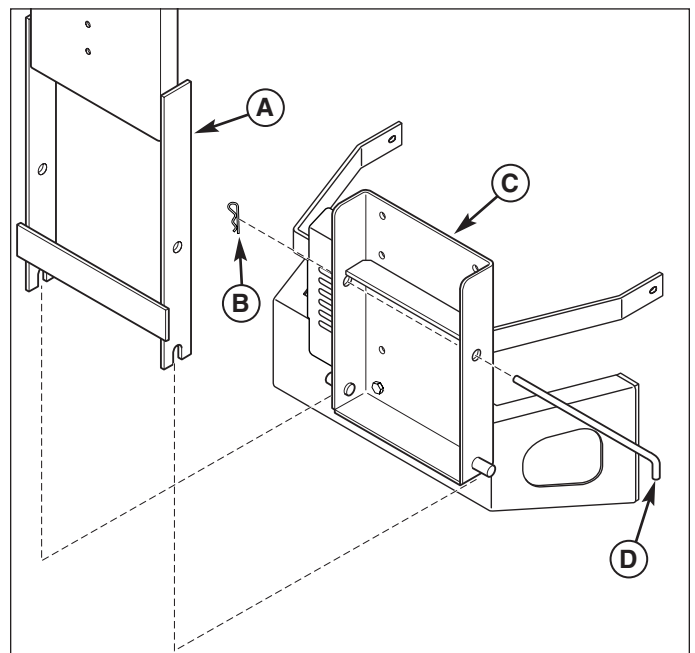

Figure 3. Install Back Plate
6. Set the back plate and support (A, Figure 3) onto pins of hitch plate (C). Secure with rod (D) and hair pin (B).